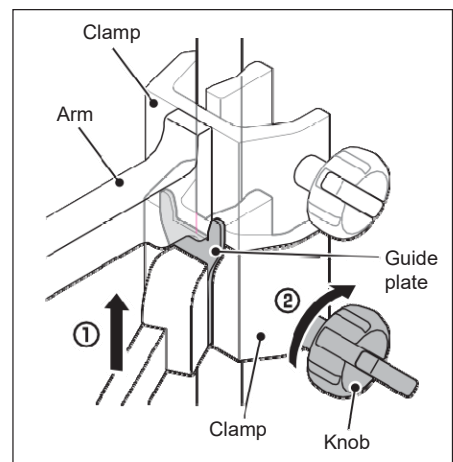

Figure 1-20
2. Align the guide plate of the Fast Clamp Attachment (for EBS) to the arm of the CAPIOX EBS Circuit Holder. (Figure 1-20 a)
3. Secure it with the knob. (Figure 1-20 b)